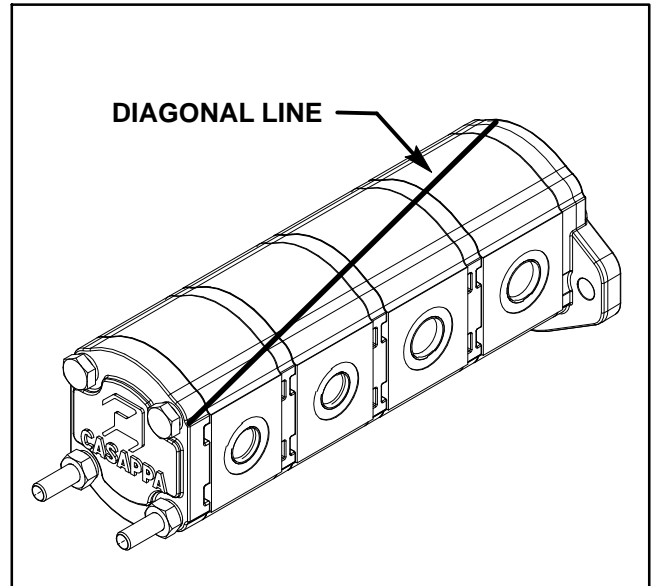

Figure 64
2. Use a marker to make a **diagonal** line across the gear pump for assembly purposes (Fig. 64).